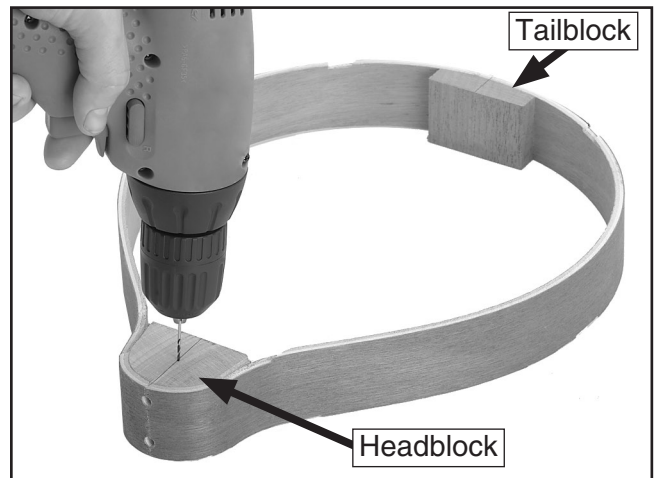

Figure 9. Drilling positioning holes.
5. Drill positioning holes $\frac{1}{2}$ " deep into the center of the headblock and tailblock on both sides for positioning brad nails (**Figure 9**).